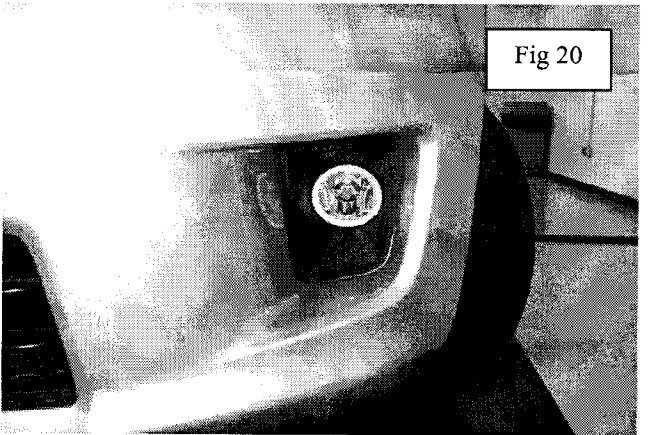

Fig 20
15. Ensure lamp is centered within outer bezel for proper alignment. See Fig 20